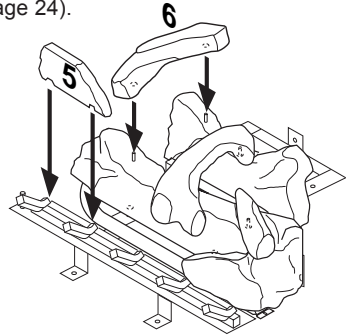

Figure 49 - Installing Logs No. 5 and No. 6
- Place log #6 (left log) onto two pins on left side of back and front log. See Figure 49.